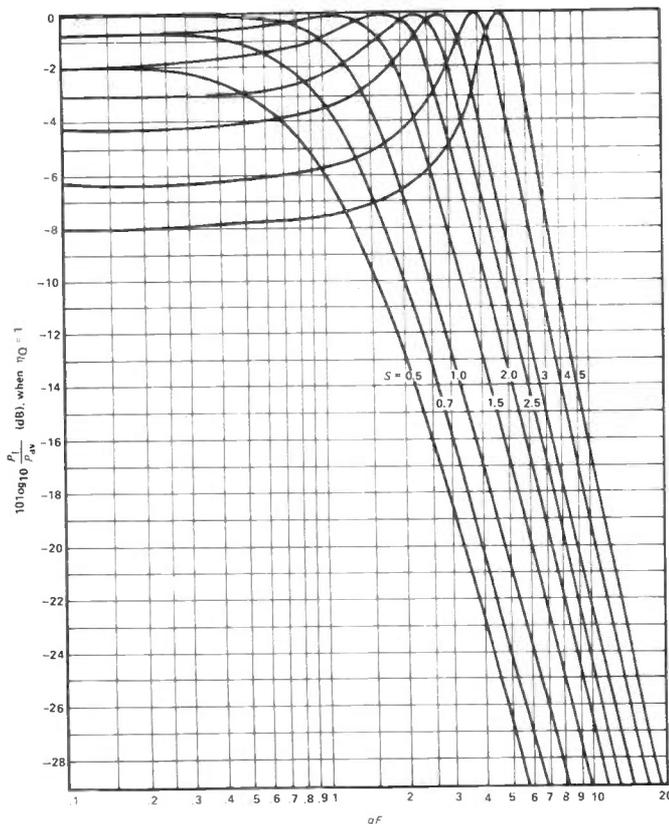

Figure 9: Relationship between  $qF$  and the power ratio.
- 2) when  $S = 1$ , the amplitude has a flat-topped characteristic (see *Figure 9*) but  $Z_i$  and  $Z_o$  indicate double peak characteristics.
When  $Q_{L1} = Q_{L2}$ , obviously  $b = 2$  and equation 20 may be simplified. The result may be plotted as functions of  $S$  and  $qF$ , and this has been done in *Figure 9* which presents the amplitude-frequency characteristic in the form of the relation between  $qF$  and the power ratio.
Note that equation 21 is equivalent to the second term of equation 18 and that the curves shown in *Figure 9* are for  $\eta_Q = 1$ .